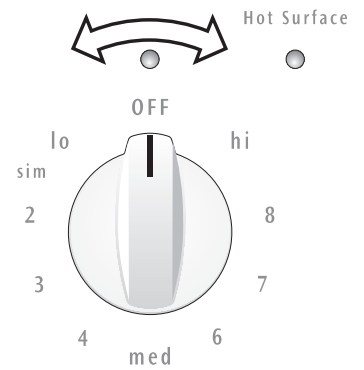

Fig. 1
2. Push in & turn the surface control knob in either direction to the desired setting (Refer to Fig. 1 & the **Suggested Radiant Surface Element Settings Table** on page 7). Start most cooking operations on a higher setting & then turn to a lower setting to finish cooking. The surface control knobs do not have to be set exactly on a particular mark. Use the marks as a guide & adjust the control knob as needed. Each surface element provides a constant amount of heat at each setting. A glowing red surface heating area extending beyond the bottom edge of the cookware indicates the cookware is **too small** for the surface heating area.